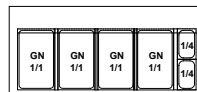

Fig.4 Layout of GN containers in “Kasia” device
7. (Concerns "Kasia" display cabinets) Place cross-bars under GN containers, and then place GN containers according to Fig.4